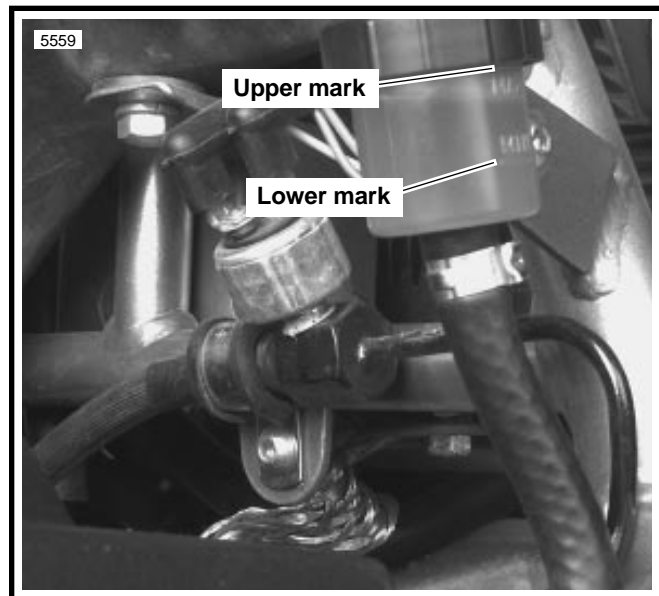

Figure 2-25. Proper Rear Brake Fluid Level
6. See Figure 2-25. With the master cylinder in a level position, check that the brake fluid level is between the upper and lower marks on reservoir. Add D.O.T. 5 SILICONE HYDRAULIC BRAKE FLUID if necessary. Be sure cap is securely screwed on.
5. With the master cylinder in a level position, check that the brake fluid level is between the upper and lower marks on reservoir. See Figure 2-25. Add D.O.T. 5 SILICONE HYDRAULIC BRAKE FLUID if necessary. Be sure cap is securely screwed on.